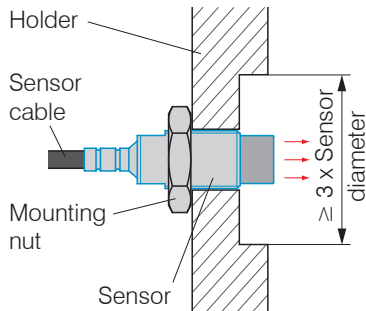

Fig. 7 Flush mounting of an unshielded sensor in a metal holder
- ▶ Mount unshielded sensors flush in a metal sensor holder, see Fig. 7. Make sure that a recess of a size three times the sensor diameter is used.